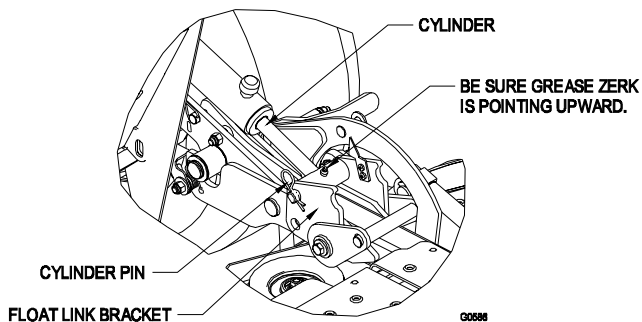

FIGURE 3
3.1.9 Align the cylinder rod end to the top hole of the float link bracket and insert pin as shown in Figure 3. Insert cotter hairpin to lock cylinder pin into place.